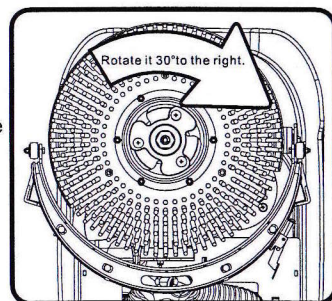

fig.4
2. If the brush is needed to change, hold on and rotate it 30° to the right to remove the brush.(fig.4)